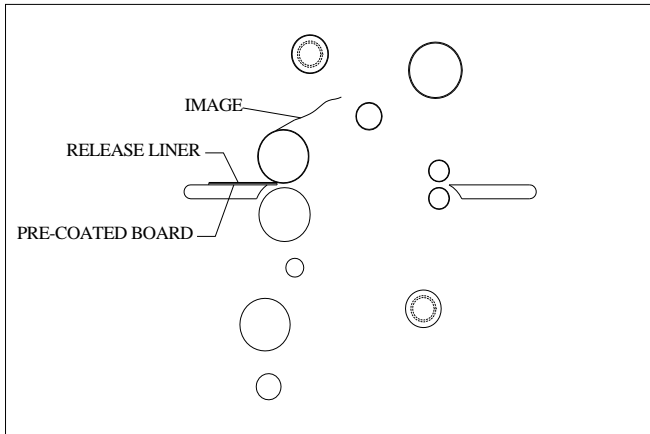

FIGURE 31
3. Do not stop once you have started the mounting process through the machine. (Fig. 31)
Note: This application can also be performed from the front operating position. Reference Fig. 31 for Illustration.